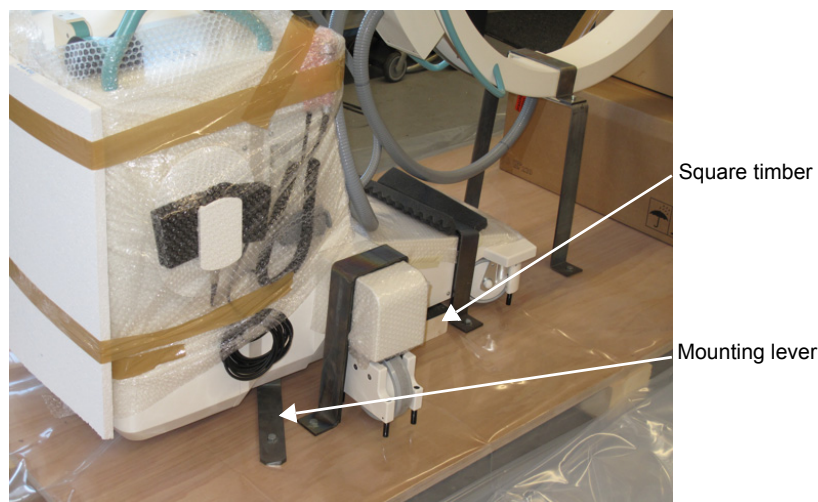

Fig. 3-16 C-arm stand with underlaid square timber and secured mounting lever.
- Unscrew and remove the two mounting levers on the left and the right side from below the C-arm stand as illustrated in *Fig. 3-16*.